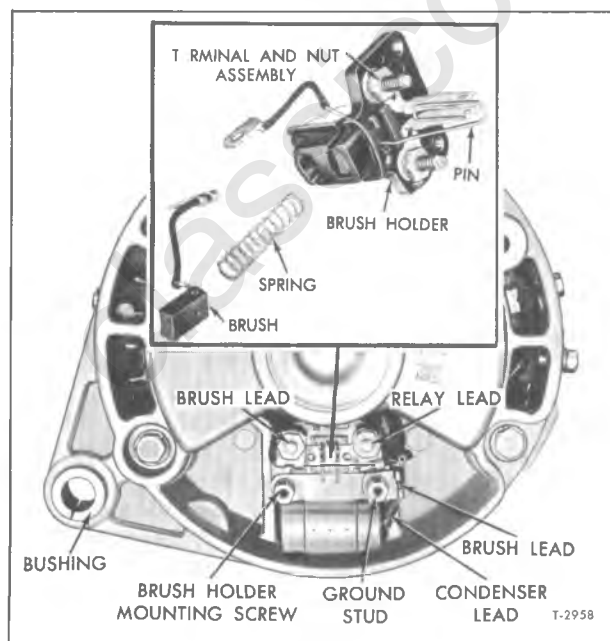

Figure 19—Generator Brush Replacement (Model 1117754) (Typical)
Removal (Fig. 19)
Installation (Fig. 19)
2. Position brush holder and brushes in end frame, then secure brush and condenser leads to terminals as shown in figure 19.